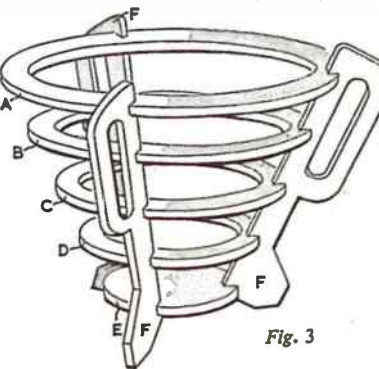

Fig. 3
Three sides (F) are required and these are shown full size in Fig. 2. Trace and transfer to $\frac{3}{8}$ in. wood by means of carbon paper. When all the pieces have been cut, clean up with glasspaper and glue together as indicated in Fig. 3. Note that the notches in the rings fit into the notches in the sides. Scrape away any excess glue. Lay it on one side for twenty-four hours before painting.